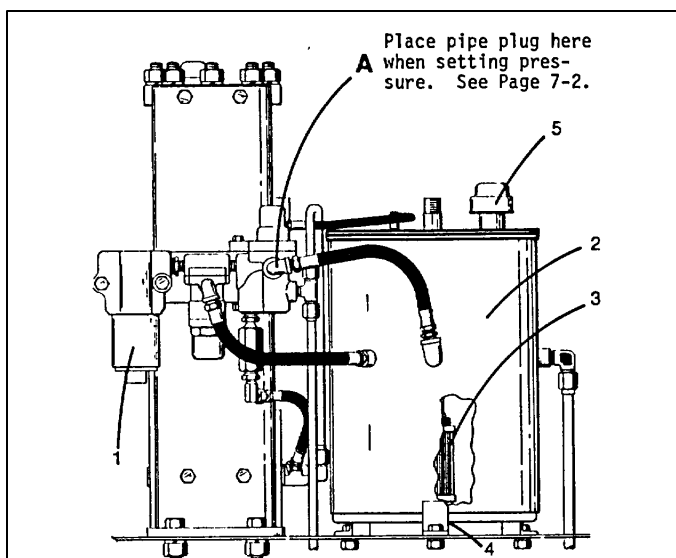

Fig. 7-1 Hydraulic Power Supply
- (c) Remove the return line from the unloading valve at (A) in Fig. 7-1. Place a pipe plug in the hole to force system pressure to build up to relief valve pressure.
- (1) Remove valve cap
- (2) Add or subtract shims (6) to change relief valve setting. The following shims are used.